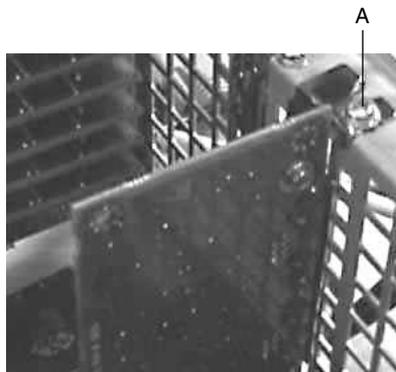

Figure 3-8 Example of an ICMB Card Attached to a Chassis
3. Secure the filler panel to the chassis. On most systems, you use one screw. The screw is noted by “A” in Figure 3-8.
2. Remove the screw securing the card to the chassis. The screw is noted by “A” in Figure 3-8 on page 72.